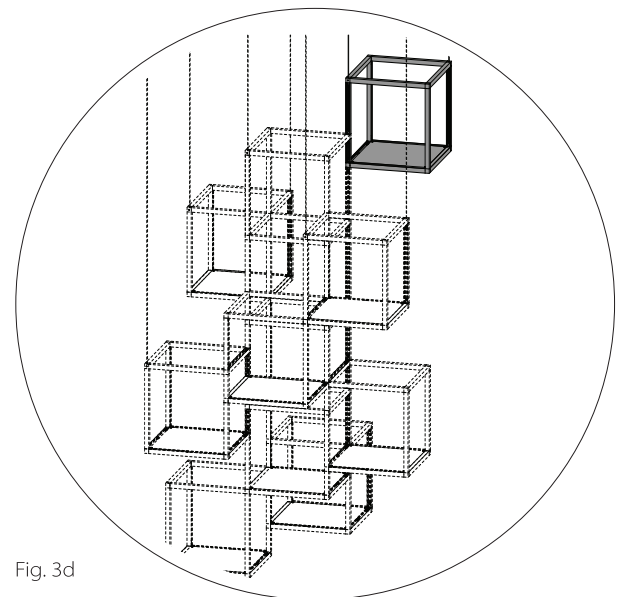

Fig. 3d
- 1d. Section as part of whole assembly shown in Fig. 3d.